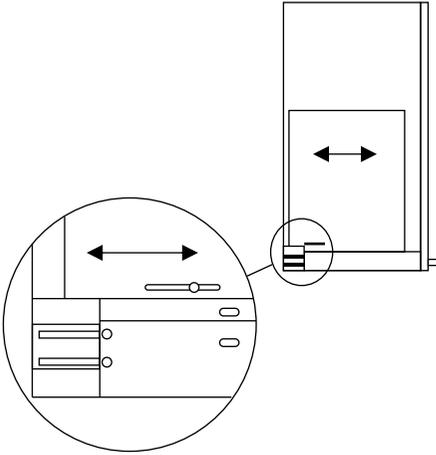

Fig 13
11. The motor casing can be adjusted to suit the cupboard size (Fig 13).